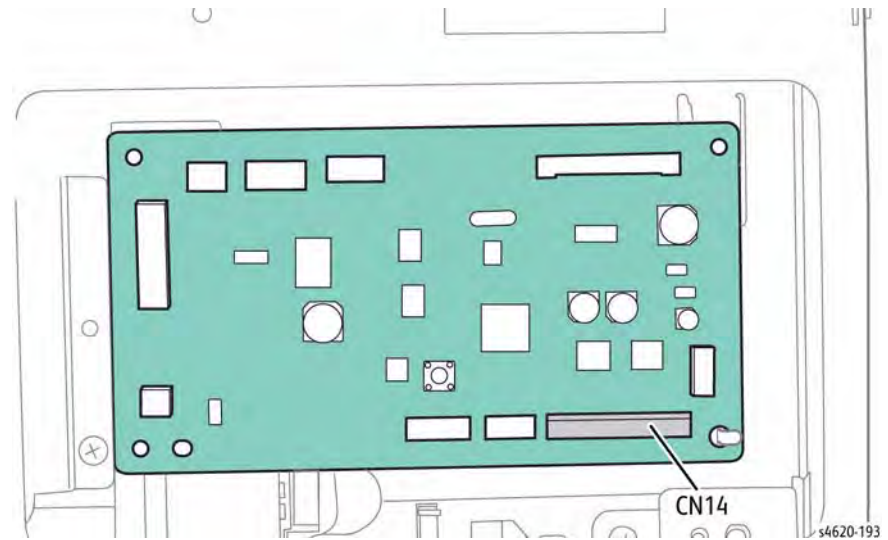

Figure 1 Disconnect the Upper Feeder Harness
4. Disconnect CN14 from the Feeder Board, Figure 1.